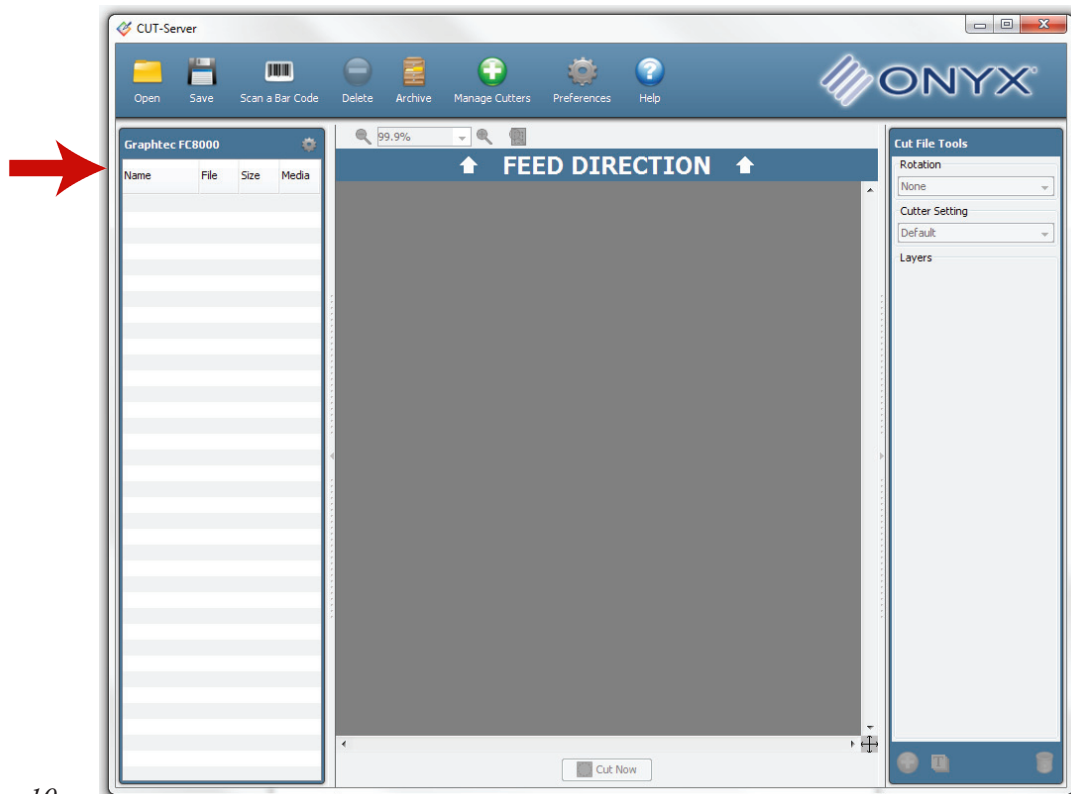

Figure 10
3. Click Close, Close, and OK. Then your cutter will be displayed in the left pane of the window (Figure 10).